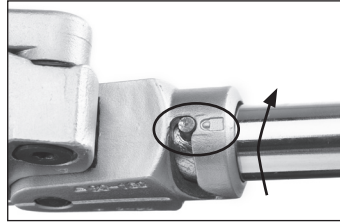

Figure 14 – LOCK
3. Turn the Carriage Handle so that the pin moves toward the “lock”  position. Make sure the Handle is secure to the Carriage. (Figure 14).